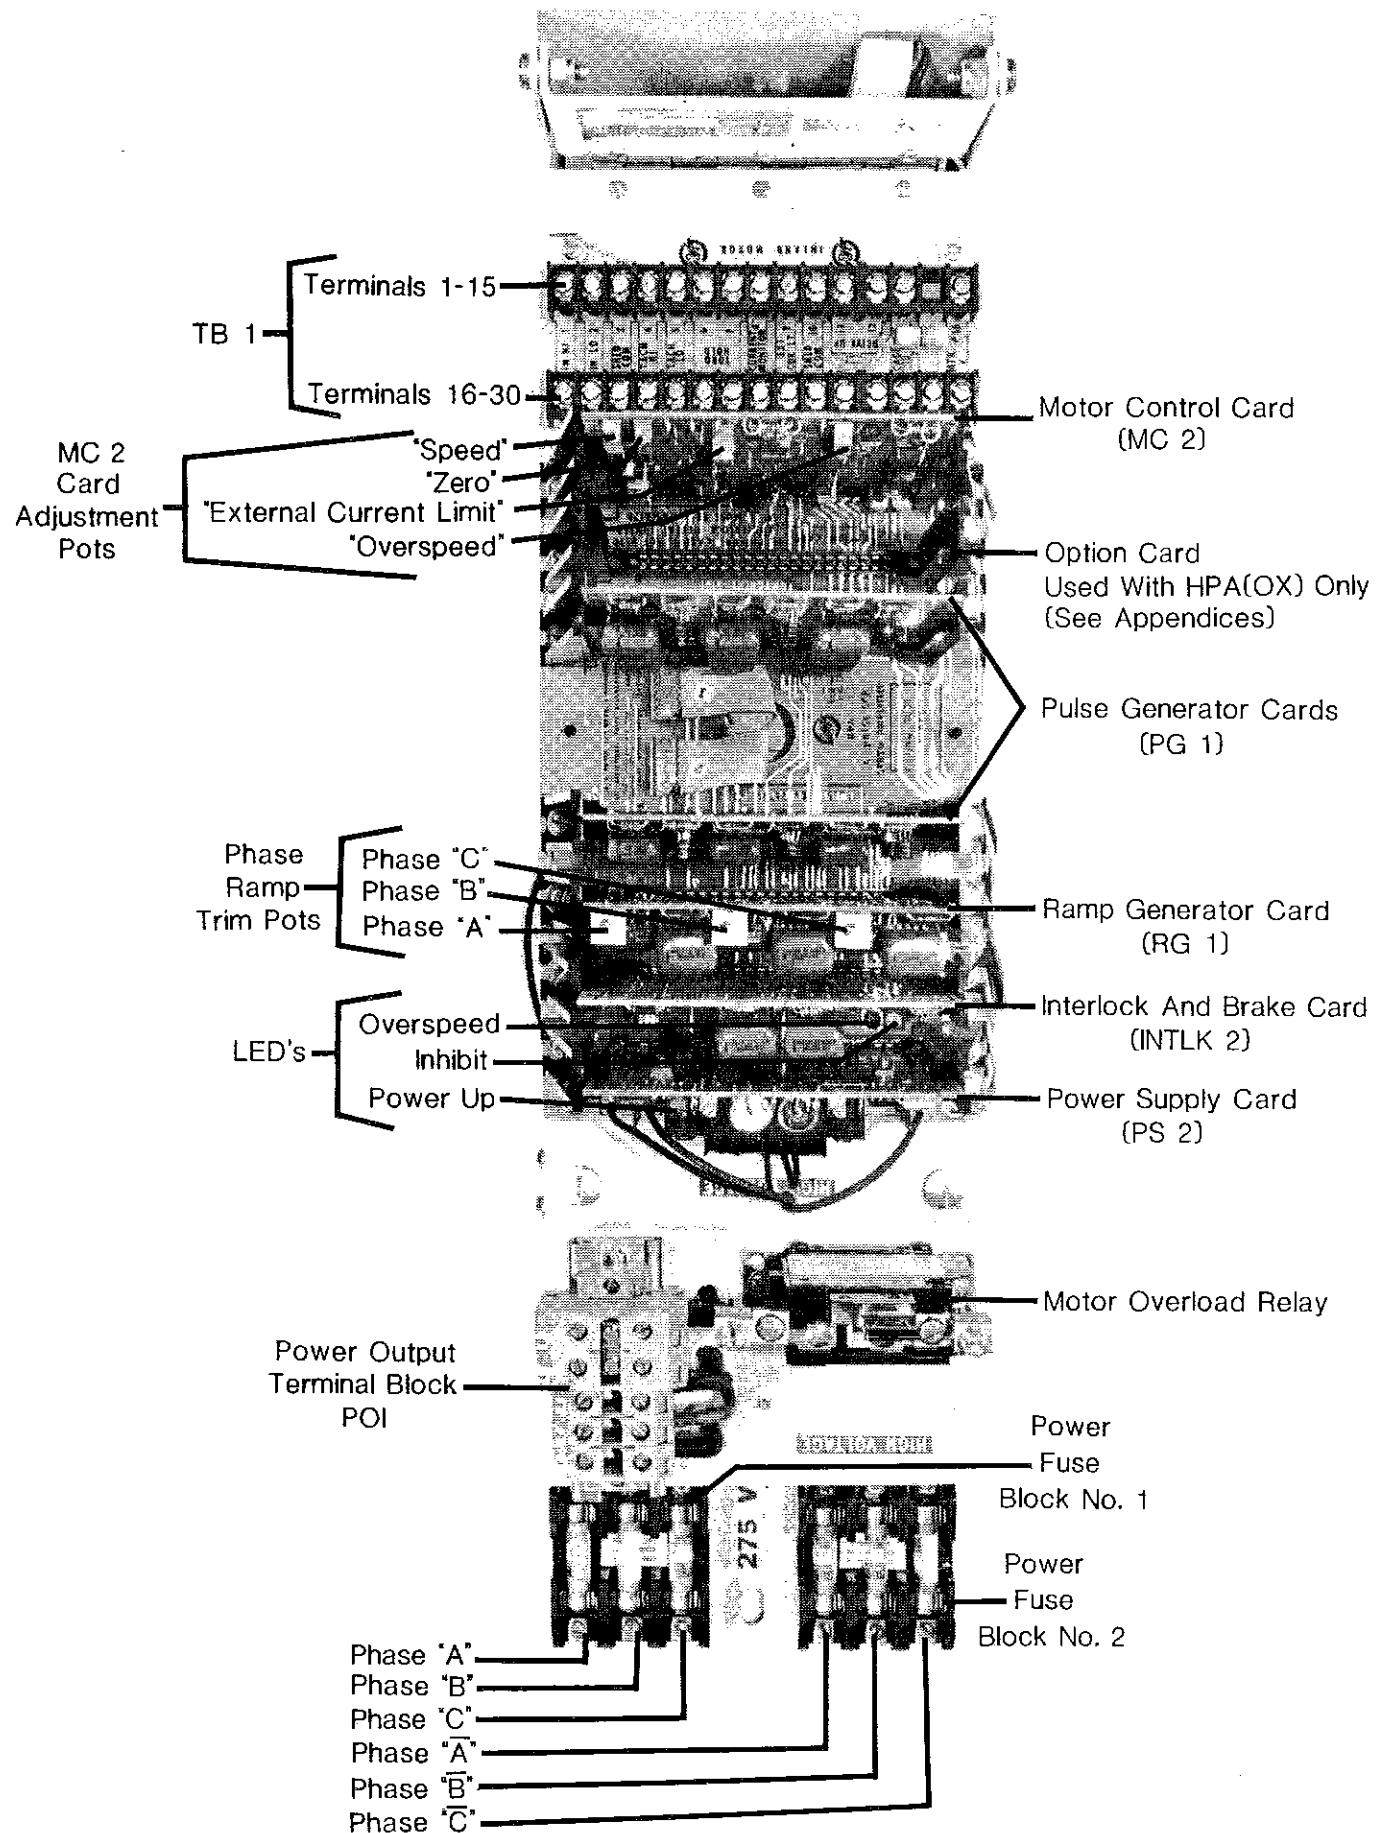

FIGURE 1
5.0 ADJUSTMENTS (Refer to Figures 1, 6, 8, and 10)
5.1 Speed Scale Factor Adjustment, Position Loop Machines (Refer to Figures 1 or 6)
5.2 Speed Scale Factor Adjustment, Manually Controlled Machines, (Refer to Figures 1 or 6)
- (2) Apply command signal of desired voltage level, which represents maximum speed, to TB1-1 and 2. Adjust SPEED pot on MC 2 card for desired tach feedback as monitored at TP106 on MC 2 card. In the example above the tach feedback should be 38 volts when the motor runs at the speed of 2000 RPM.
5.3 Zero Adjustment (Refer to Figures 1 or 6.)
5.4 Bias Adjustment (Refer to Figures 1 or 8)
5.5 Overspeed Adjustment (Refer to Figures 1 or 6)
5.6 Power Supply Adjustments (Refer to Figures 1 or 10)
5.7 External Current Limit Adjustment (Refer to Figures 1 or 6)